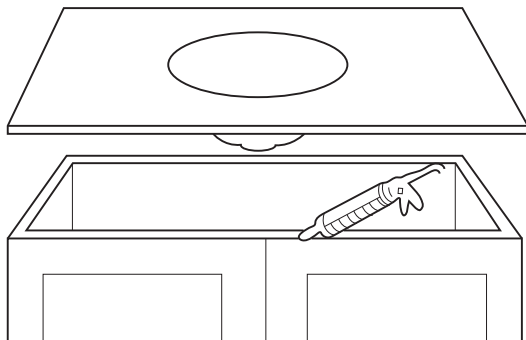

Figure C-10
- Place a 25 mm spot of silicone adhesive every 300 mm around the top cabinet support (Figure C-10).